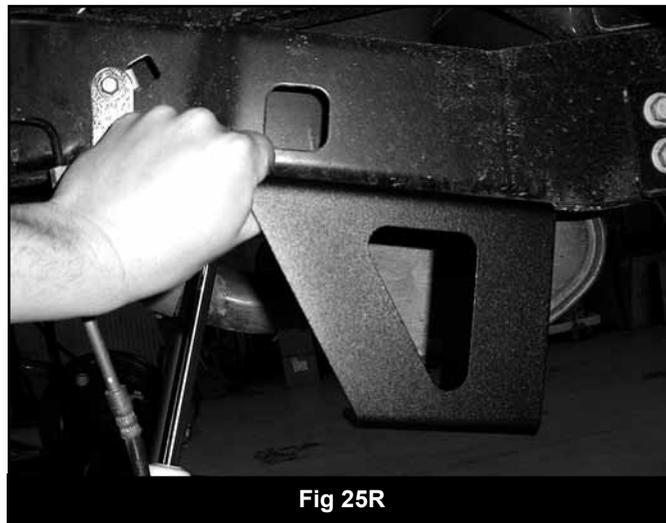

Fig 25R
46. Install sway bar drop brackets with OE sway bar mounting bolts to frame rails. Brackets will be offset toward the rear (Fig 25R). Mark the hole to the rear of the existing OE holes.